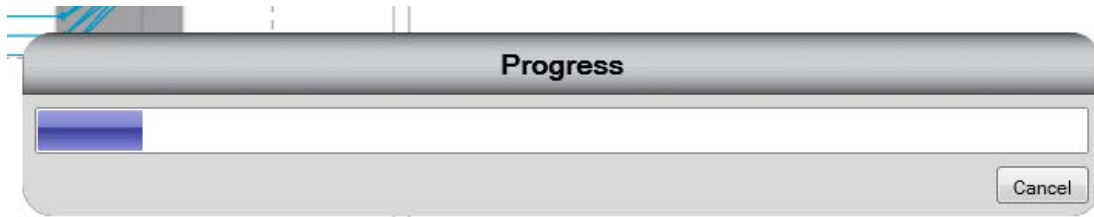

Figure 4-20: Automatic Calibration Progress Indicator
2. A *Progress* indicator displays, as shown in Figure 4-20.